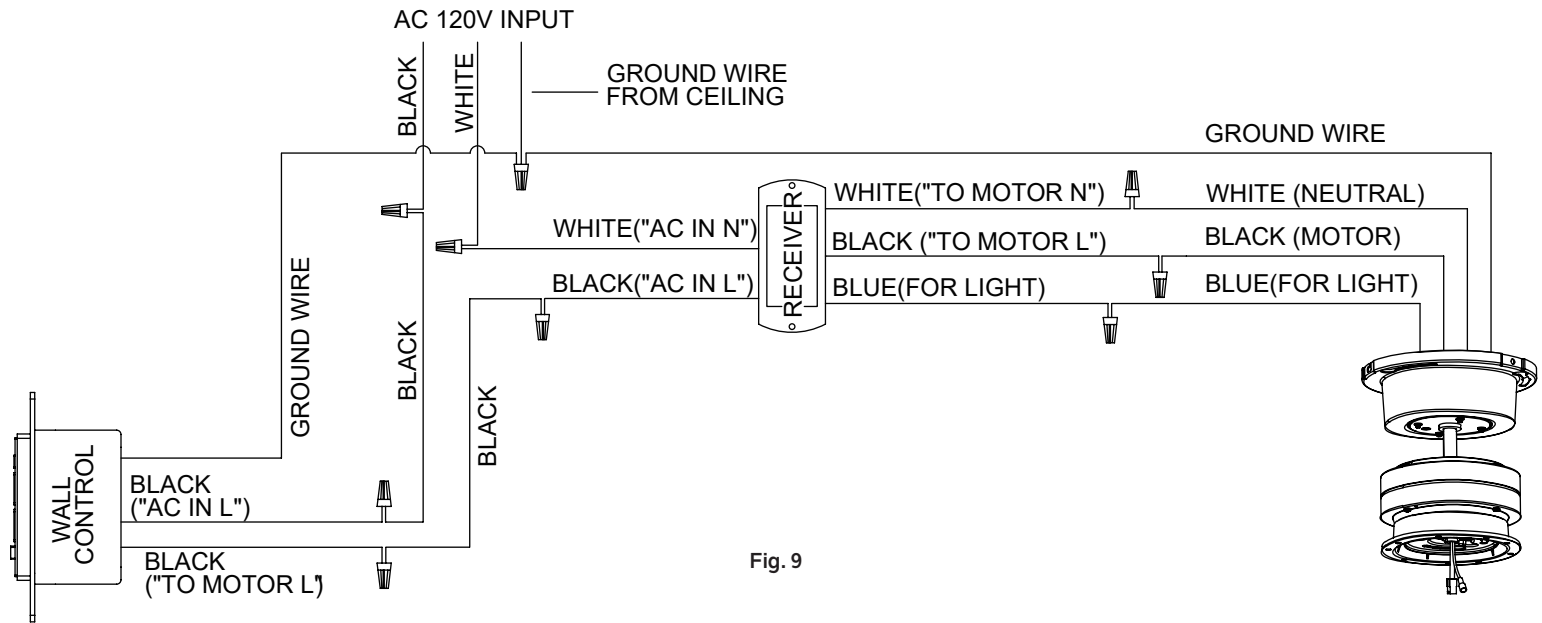

Fig. 9
Step 5. Secure all wires connections with the plastic wire connectors provided. (Fig. 9)